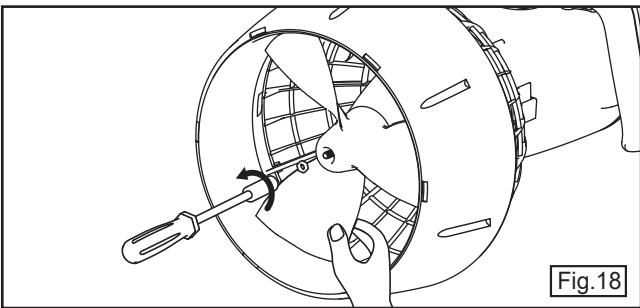

Fig.18
5. While holding the Propeller, use an M6 socket to remove the nut from the Propeller shaft (See figure 18).